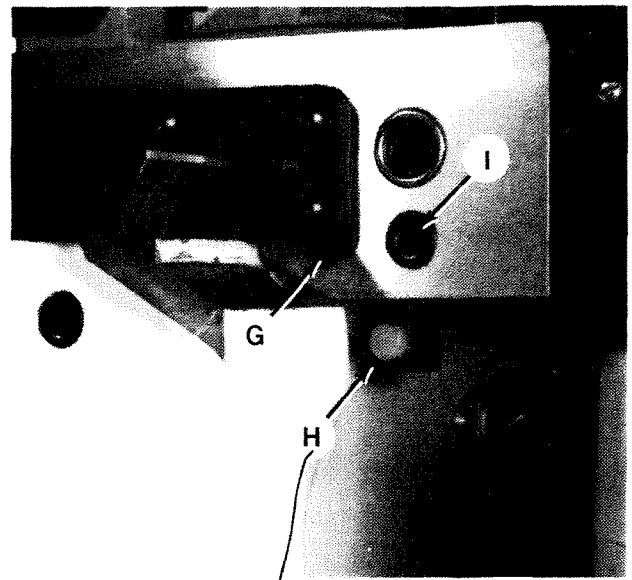

Figure 1.20 - Carriage Stop
22. Loosen screw "G" to remove carriage stop "H", Figure 1.20 .
4. Replace carriage stop "H" and tighten screw "G", Figure 1.20 .
2. Place a drain pan capable of holding one pint of liquid under pipe plug "I", Figure 1.20 .